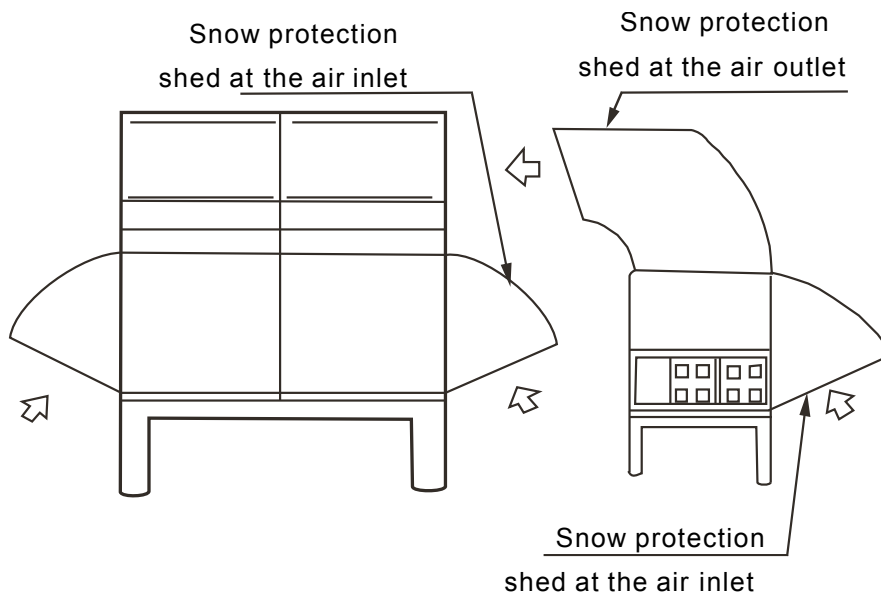

Fig 2-7
3.6 Snow protection facilities must be installed in the snowfall areas. (Fig 2-7) In case the snow protection facilities are incomplete, faults may occur. In order to prevent influence caused by snow, set up raised pavilion, and install snow protection sheds at the air inlet and air outlet.